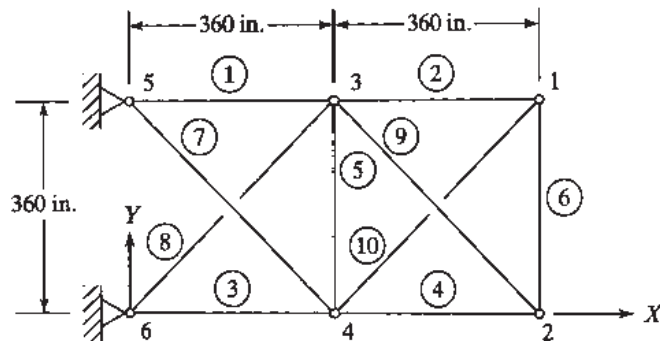

FIGURE P4.11
- 4.11.** Determine the nodal displacements and element stresses in the truss in Fig. P4.11, due to each of the following conditions: